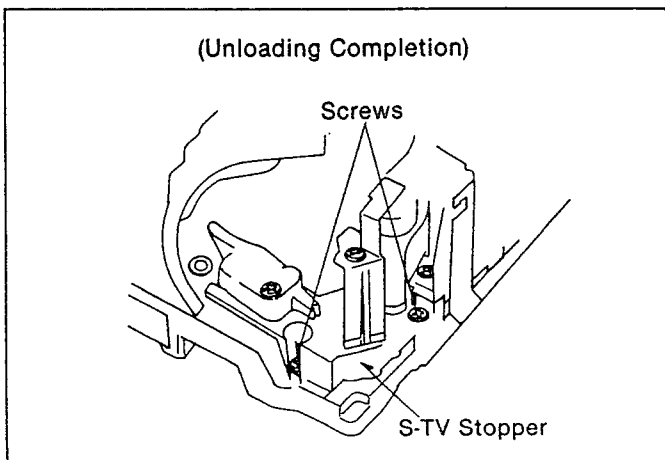

Fig. M17
- (3). Install the S-TV Stopper and then tighten the 2-Screws as shown in Fig.M17.